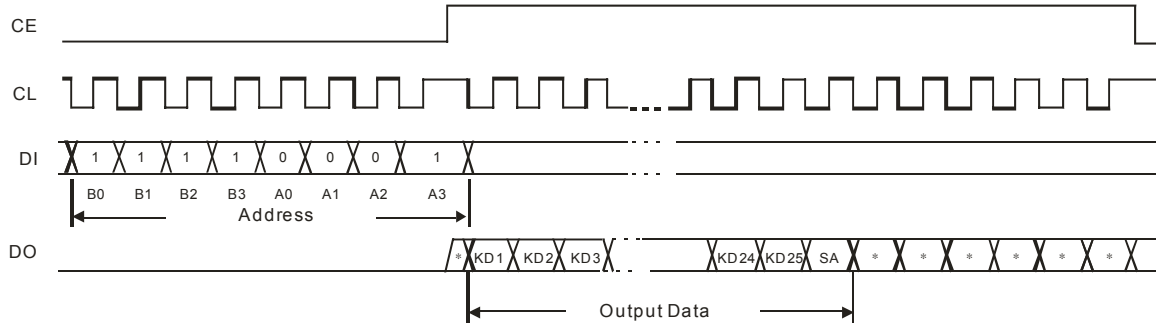

Figure 5
- Address : Applications must send the value (8FH) as shown in figure 5